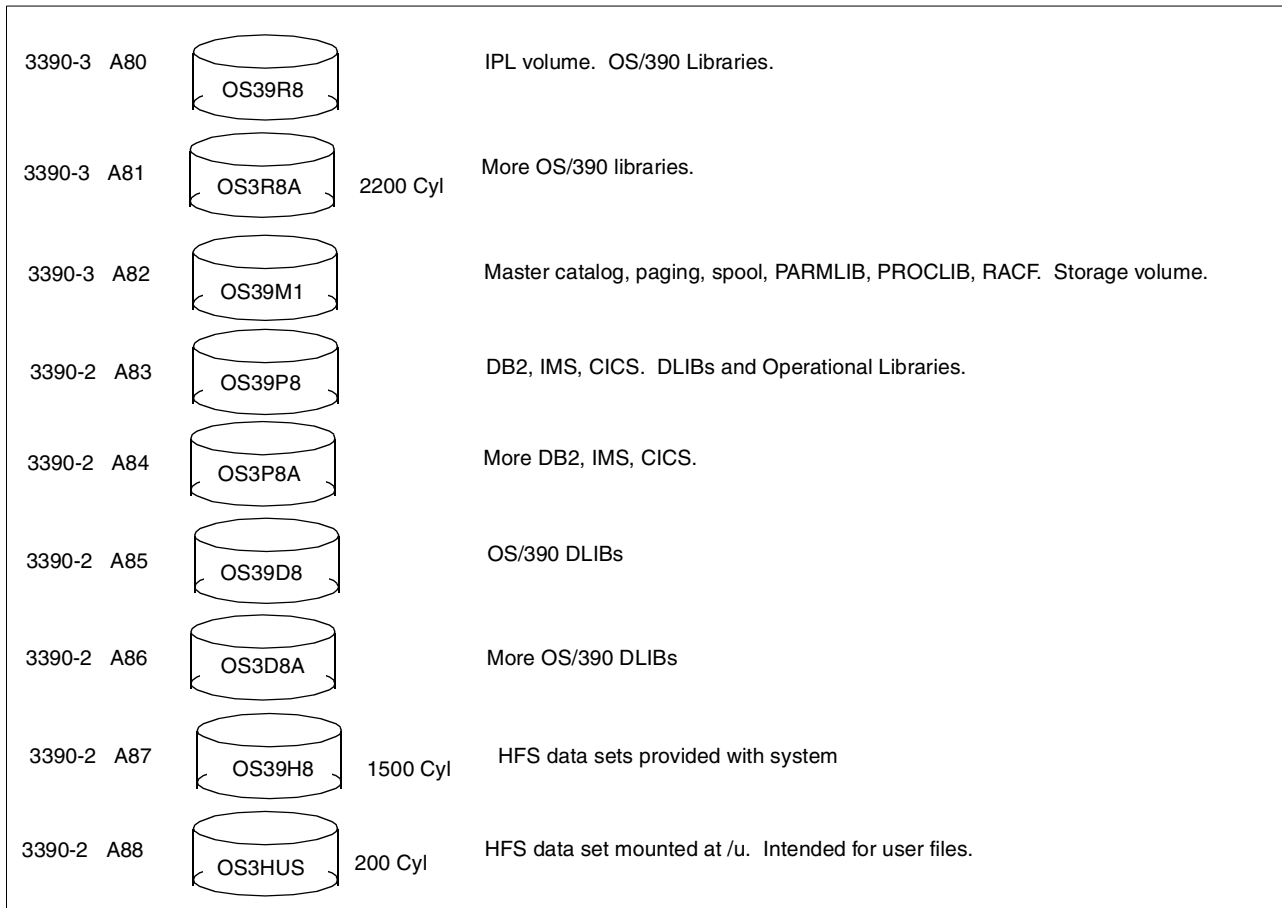

Figure 10. Volumes Used For the AD System, based on the OS/390 V2R8 Release. Addresses shown are for emulated volumes.
4.1 Application Development (AD) System
*The AD system is available only to members of IBM's PartnerWorld for Developers.*² This is a prepackaged OS/390 system that has been available for some time (since the MVS 5.2.2 release) for P/390 and R/390 systems. It is often known as the "AD CD-ROM System" because it is normally released on CD-ROM media. More informally, it is simply known as the AD system. The volumes distributed with this system are shown in Figure 10 on page 60. Starting with OS/390 V2R8, the same AD system will be available for Multiprise 3000 systems. The release 8 AD system will have the Multiprise 3000 SPE integrated, and the same CDs can be used for Multiprise 3000, P/390, R/390, and the S/390 Integrated Server.